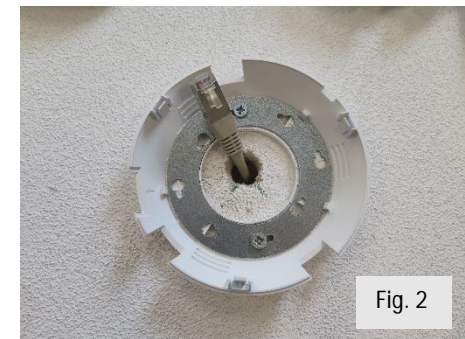

Fig. 2
3. Bring the power wires (Fig.2) or Ethernet cable (Fig.4) through the adapter top opening.
4. Mount the adapter into the ceiling opening, using the spring flaps. Check the view direction arrow is pointing in the desired direction (Fig.2)
2. Route the PoE or DC power wires. The wiring can be routed into the ceiling (Fig.2) or in parallel to the ceiling through the adapter side openings (Fig.4).
2. Make sure the power is disconnected. Connect the AC power wires to the AC terminals (Fig.2)